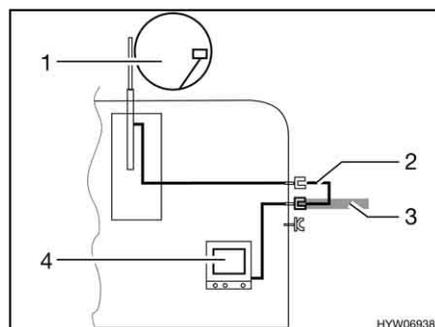

Fig. 134 TV inside the vehicle
- TV inside the vehicle (Fig. 134,4): Connection to roof antenna (Fig. 134,1) with connection cable (Fig. 134,2)
- TV inside the vehicle (Fig. 134,4): Connection to external antenna (Fig. 134,3)